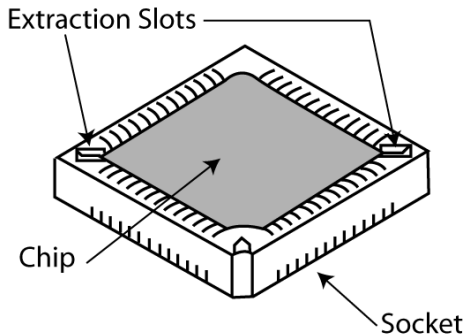

Figure 1: Chip Socket with Inserted Chip
1. Locate the socket with the chip to be replaced. Notice the rectangular slots in two of the chip corners. These are the slots in which the extraction tool is placed (see Figure 1).